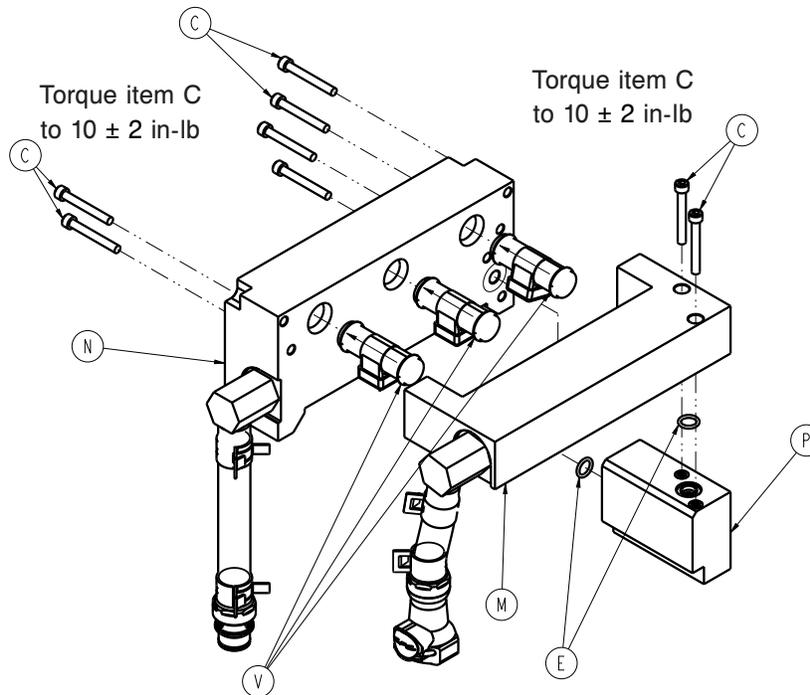

Figure 45 – Manifolds
22. Using a $5/32$ " hex wrench, remove the six screws (C) that secure the return manifold to the bypass and supply manifolds (Figure 45). Save the screws.